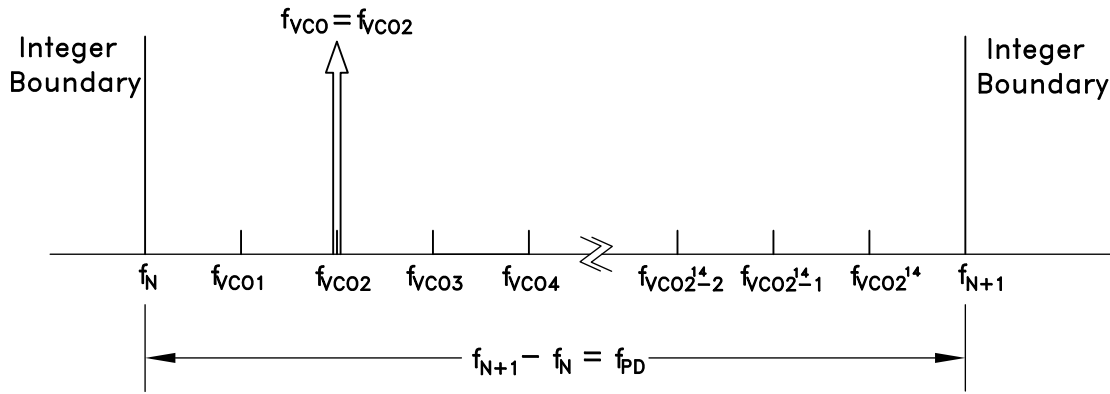

Figure 44. Exact Frequency Tuning
and f_{VCOk} are the channel step frequencies where $0 < k < 2^{24}-1$, As shown in Fig 44.
Some fractional PLLs are able to achieve this by adjusting (shortening) the length of the Phase Accumulator (the denominator or the modulus of the Delta-Sigma modulator) so that the Delta-Sigma modulator phase accumulator repeats at an exact period related to the interval frequency ($f_{VCOk} - f_{VCO(k-1)}$) in Fig 44. Consequently, the shortened accumulator results in more frequent repeating patterns and as a result often leads to spurious emissions at multiples of the repeating pattern period, or at harmonic frequencies of $f_{VCOk} - f_{VCO(k-1)}$. For example, in some applications, these intervals might represent the spacing between radio channels, and the spurious would occur at multiples of the channel spacing.
If it is desirable to have multiple, equally spaced, exact frequency channels that fall within the same interval (ie. $f_N \leq f_{VCOk} < f_{N+1}$) where f_{VCOk} is shown in Fig 44 and $1 \leq k \leq 2^{24}$, it is possible to maintain the same integer-N (Reg 03h) and exact frequency register (Reg 0Ch) settings and only update the fractional register (Reg 04h) setting. The Exact Frequency Channel Mode is possible if \(EQ 16\) is satisfied for at least two equally spaced adjacent frequency channels, i.e. the channel step size.
To configure the HMC835LP6GE for Exact Frequency Channel Mode, initially and only at the beginning, integer (Reg 03h) and exact frequency (Reg 0Ch) registers need to be programmed for the smallest f_{VCO} frequency (f_{VCO1} in Fig 44), as follows:
1. Calculate and program the integer register setting $\text{Reg 03h} = N_{INT} = \text{floor}(f_{VCO1}/f_{PD})$, where f_{VCO1} is shown in Fig 44 and corresponds to minimum channel VCO frequency. Then the lower integer boundary frequency is given by $f_N = N_{INT} \cdot f_{PD}$.
$\text{Reg 04h} = N_{FRAC} = \text{ceil}\left(\frac{2^{24}(f_{VCOk} - f_N)}{f_{PD}}\right)$ where $f_N = \text{floor}(f_{VCO1}/f_{PD})$, and f_{VCO1} , as shown in Fig 44, represents the smallest channel VCO frequency that is greater than f_N .
4. To change from channel 1 ($f_{VCO1} = 2800.2$ MHz) to channel 2 ($f_{VCO2} = 2800.3$ MHz), only Reg 04h needs to be programmed, as long as all of the desired exact frequencies f_{VCOk} (Fig 44) fall between the same integer-N boundaries ($f_N < f_{VCOk} < f_{N+1}$). In that case